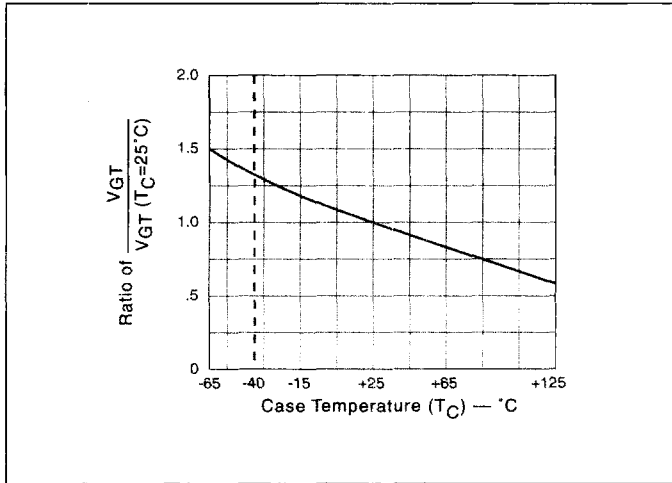

Figure 4.7 Normalized DC Gate Trigger Voltage for all Quadrants vs Case Temperature
- (6) See Figure 4.7 for  $V_{GT}$  vs  $T_C$ .